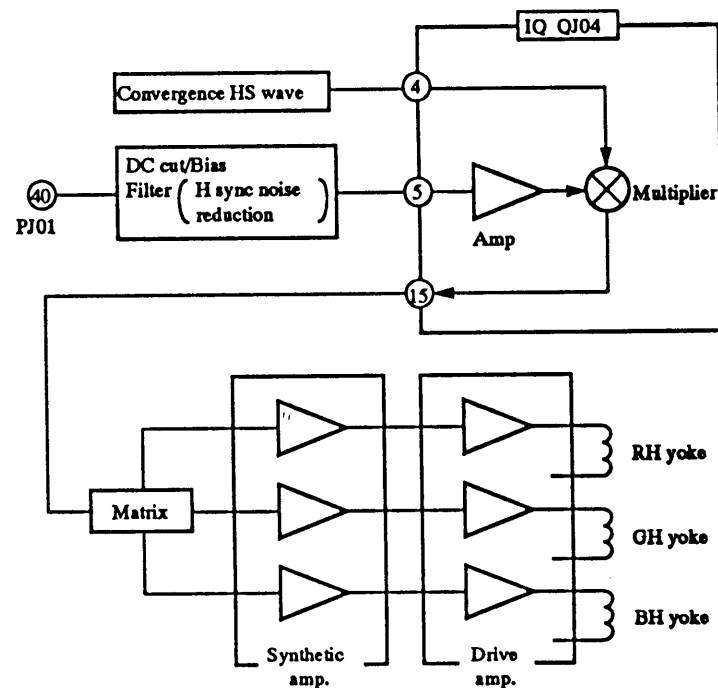

Figure 9-4: HV Raster Distortion Control Circuit
The circuit shown in Figure 9-4 is incorporated into the convergence circuit to prevent raster distortion during PIP insertion. A ripple detection signal is extracted from the HV Detection Circuit (Q412), and is filtered by the DC cut/Bias Filter circuit. This signal is proportional to the raster distortion during the vertical period. The signal is multiplied with the Horizontal Sawtooth (HS), and the result is applied to each of horizontal convergence summing amplifiers (Synthetic amp).